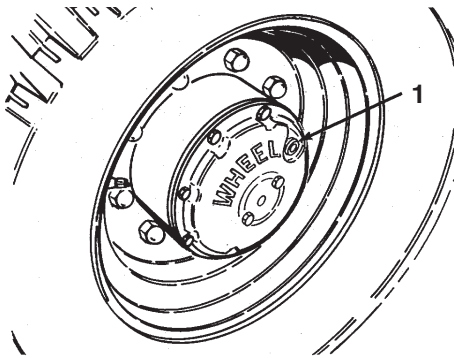

Figure 56
1. With machine on level surface, position wheel so the check/drain plug is at either three or nine o'clock position (Fig. 56).
3. When oil has drained, position wheel so plug hole is at three or nine o'clock position (Fig. 56).